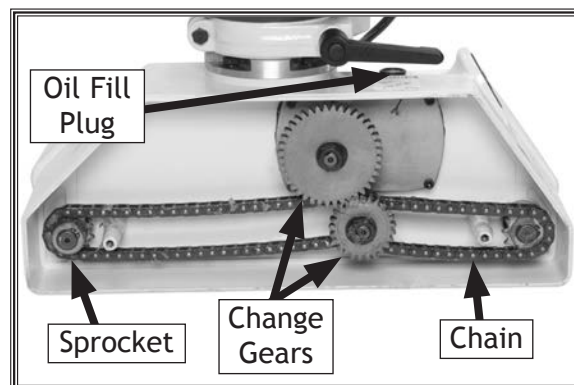

Figure 14. Sprockets, chain, and change gears.
Note: See **Figure 14** on **Page 21** for oil fill port location.
- After the first month or 200 hours of use, change the gearbox oil with 5.1 fluid ounces of an automotive grade 80-90W gear oil. For the remaining life of the power feeder, change the oil every 6 months or 1000 hours of use. **Note:** To drain the unit, remove the fill plug labeled "OIL" (see Figure 14) and invert the power feeder.
- To prevent rust and binding, paint the sprockets, chain, and change gears (see Figure 14) with a light film of an automotive grade GL-2 grade grease.